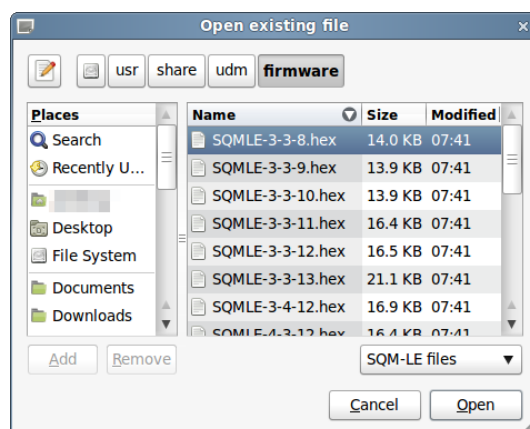

Figure 7.23: Firmware selection
1. Press the “Select Firmware” button to choose the firmware file to load in to the SQM as shown in Figure 7.23: